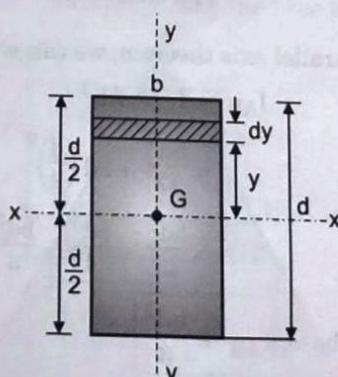

Fig. 6.8.1
- Consider rectangle of width 'b' and depth 'd' as shown in Fig. 6.8.1.